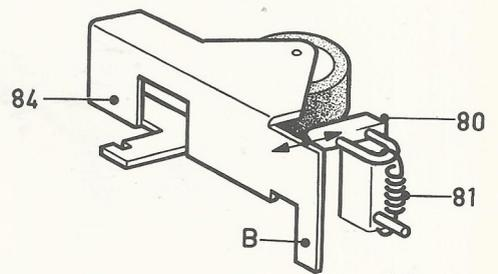

Fig. 5
- In position "ejecting cassette" lever 84 must be just disengaged from stop 80. Adjust this by bending the upper part of lug B (Fig. 5).